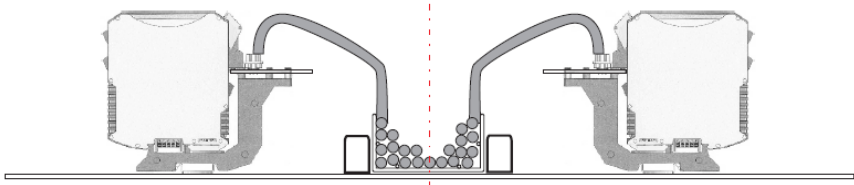

Fig. 2 View (cross section) of the pac-Carrier and cable duct
4. If you do not follow the recommended cabinet design, ensure that the air may flow around the devices. There has to be sufficient space between the devices and the cable ducts. We recommend a distance of 6 cm (Please refer to figure 2), minimum 2 cm. If this is not possible, we recommend raising the DIN-rail above the level of the cable ducts using spacers. This allows the devices to be better exposed to the air flow. We offer a raising kit as an accessory for the pac-Carriers of the 9295 series.